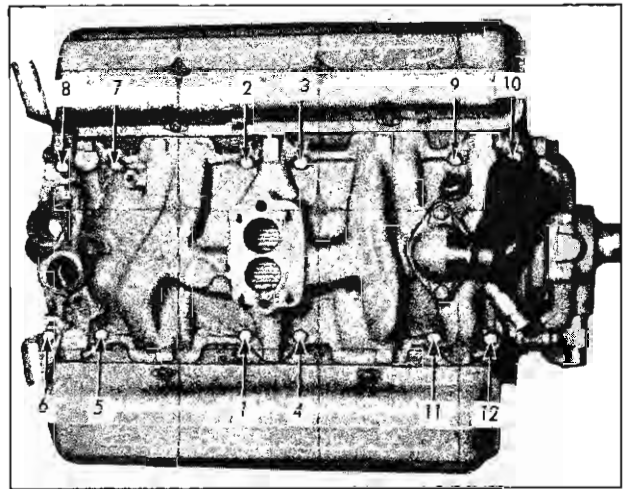

Fig. 59—Intake Manifold Bolt Torque Sequence
- Install intake manifold and bolts and check for misalignment of manifold and gaskets, reposition if necessary. Tighten bolts a little at a time according to the sequence shown in Figure 59. Final torque should be 25-35 ft. lbs.